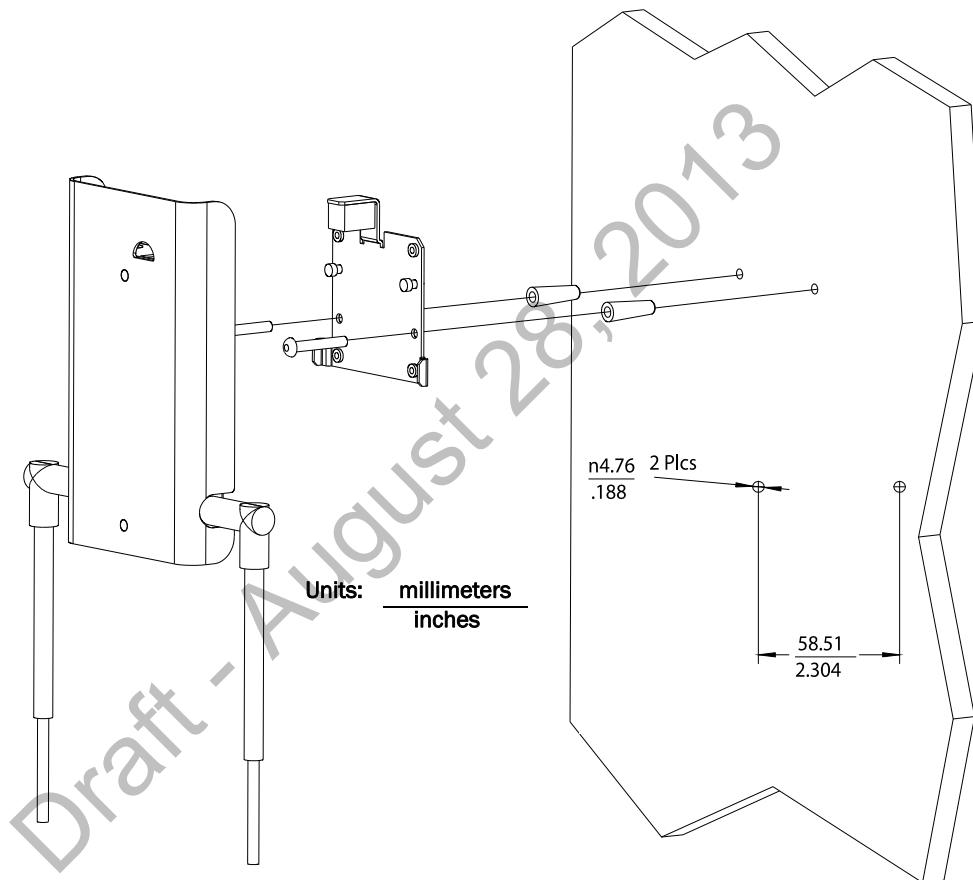

Figure 2-15: Mounting the IntelliVue Smart-hopping 1.4 GHz RA to a Wall (CA Earthquake Rated)
1. Using a 3/16-inch drill bit, drill two pilot holes 0.188 inches (5 mm) in diameter at the locations shown in Figure 2-15.
3. Secure the quick release wall plate to the wall by screwing a supplied #6 x 1 1/4 inch self-tapping screw through the wall plate into each screw anchor (or pilot hole) as shown in Figure 2-15.
4. While holding the RA chassis with its antennas pointing down as shown in Figure 2-15, fit the openings in the back of the RA chassis over the two mounting studs that protrude from the wall plate, and then slide the RA chassis down so that the mounting studs are securely in the grooves in the back of the RA chassis.